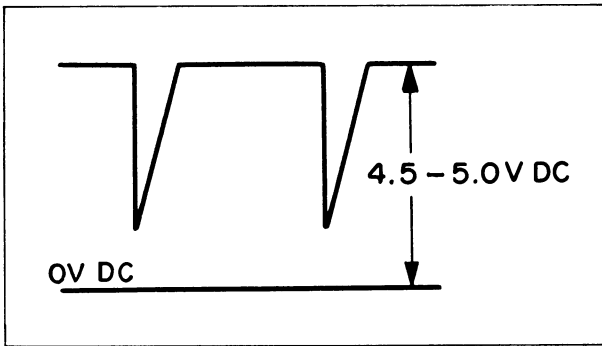

Fig. 5-7. TP-5 Disc pulse-2
4. Verify that the DISCRI PULSE-2 at TP-5 is 4.5 to 5.0 volts as shown in Fig. 5-7.